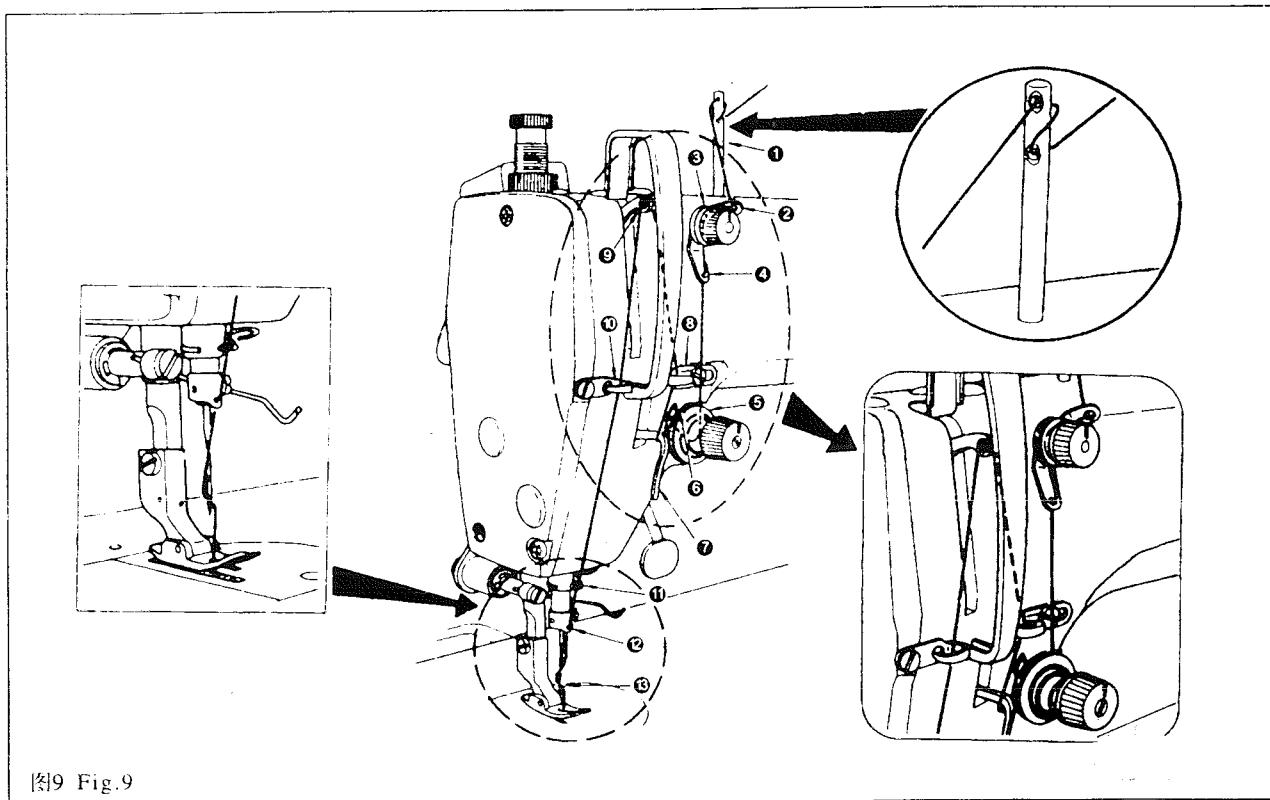

图9 Fig.9
5. 面线的穿法(图9)
5. THRENDING THE MACHINE HEAD (Fig.9)